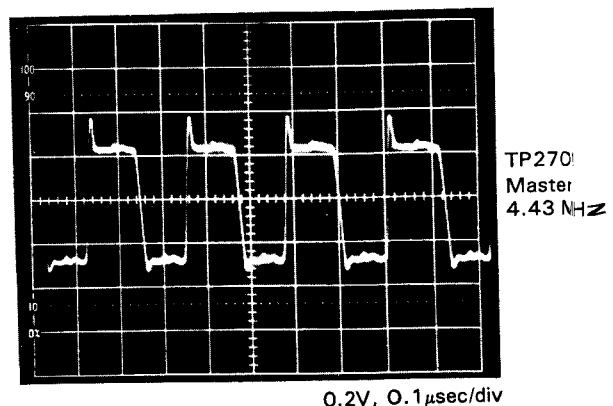

Figure 2-13.
3. Connect a frequency counter to TP2702 (GND) and TP2701 (Master 4.43 MHz) and adjust C2727 (Master 4.43 MHz Adj.) to obtain a frequency counter reading of 4433.62 ± 0.02 kHz at TP2701. (Fig. 2-13)